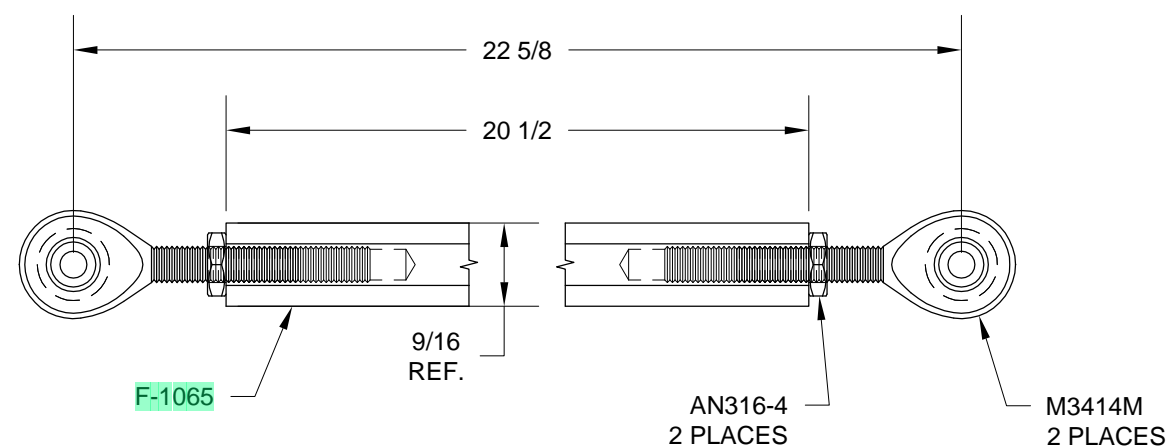

FIGURE 2: ASSEMBLING THE F-1065 PUSHROD
Step 2: Assemble the F-1065 Pushrod Assembly as shown in Figure 2.